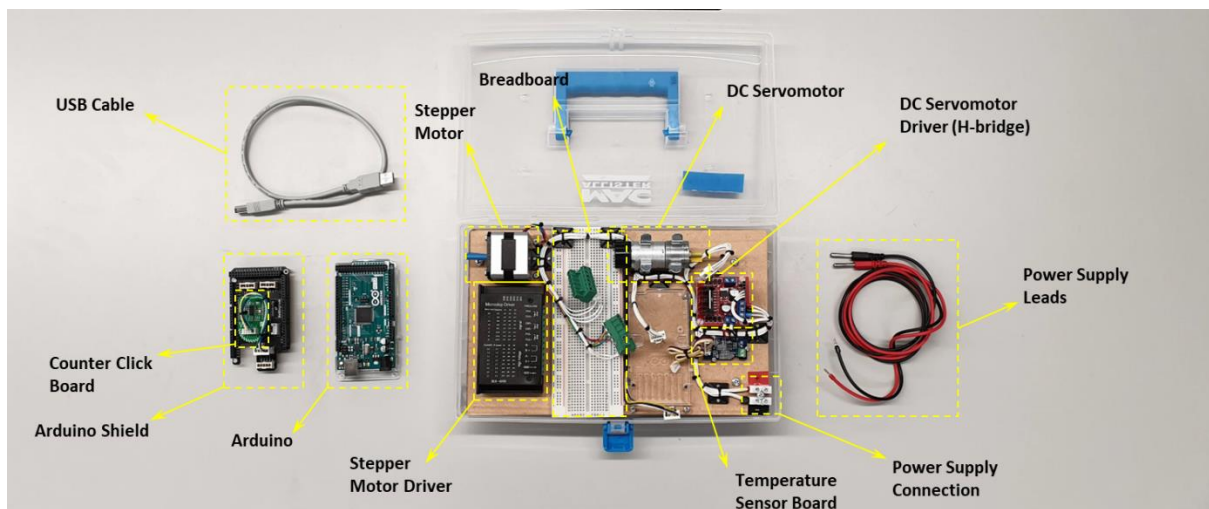
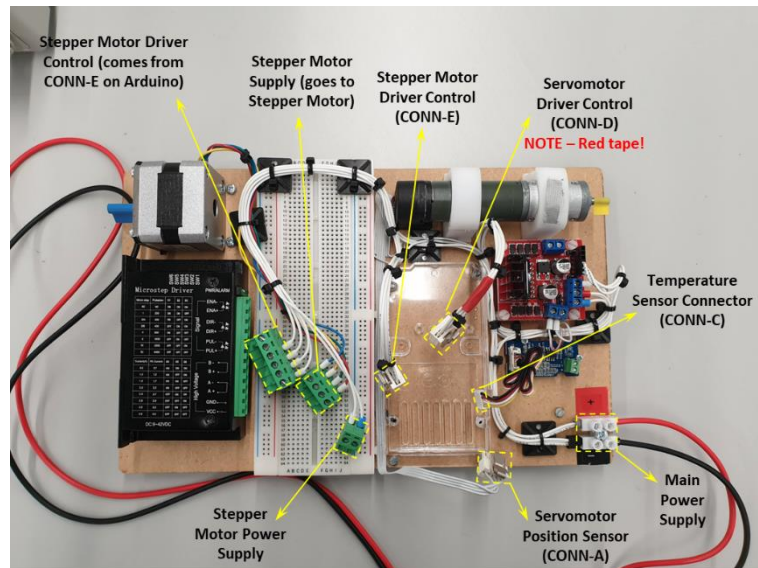
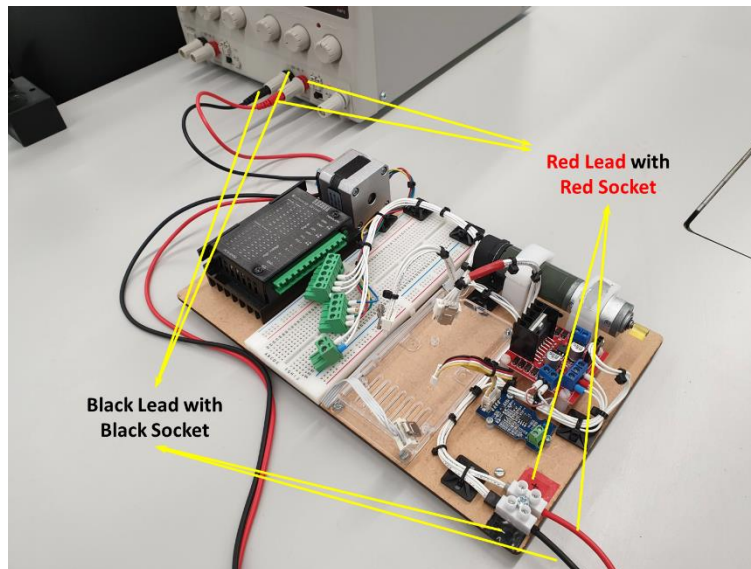

Figure 2 All components in the Lab-Kit
Figure 3 Description of Connectors in the Lab Kit
Figure 12 Polarity matching when connecting Power Supply
A labelled picture of the lab exercise setup is shown in Figure 2. The Lab Kit has been developed to make it very easy for you to set it up, and the focus is on understanding the methodology and process. Consequently, all connections between different sensors/buttons/peripherals and the Arduino are facilitated via a custom wiring harness with mating plugs and sockets. This is different from the “take-home” kits where the skill to develop your own electrical circuit using breadboard and jumper wires is important.
- CONN-D** (on Arduino Shield) with the “**Servomotor Driver Control**” connector (see Figure 3 a few pages above – this is the plug/connector with a red tape wrapped around the cables)
- CONN-A** (on Arduino Shield) with “**Servomotor Position Sensor**” connector (see Figure 3 a few pages above)
- Main Power Supply** (bottom right of the lab kit base board) using the **Power Supply Leads** (see Figure 2 and Figure 3 a few pages above – ensure polarity is correct, i.e., **Red** with **Red**, and **Black** with **Black** – see Figure 12)